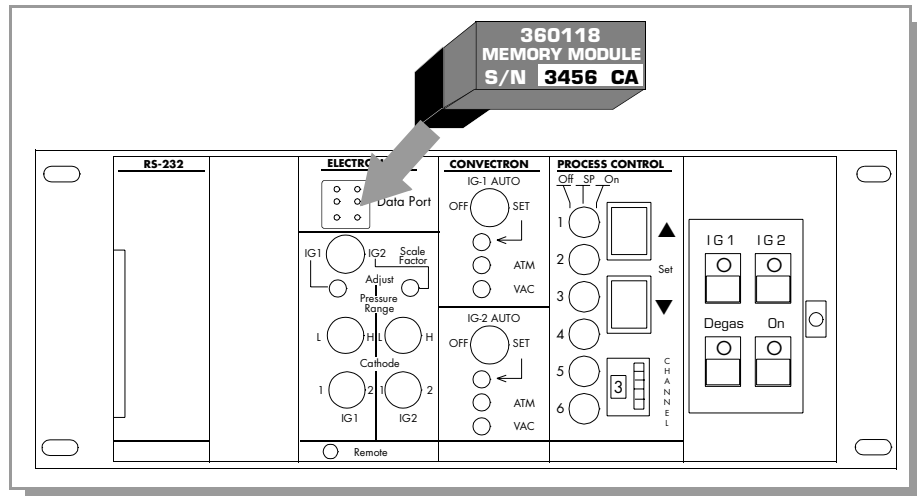

Figure 4-17 Control Unit Front Panel (with Door Open) Showing Memory Module Location.
4. Plug the Memory Module into the data port with the writing on the module label right-side-up. See Figure 4-17.